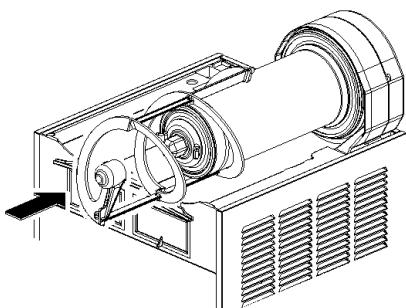

figure 15
- Install the outer spiral. Slide it over the evaporator until its hexagonal front notch engages with the hexagonal exposed end of the magnetic outside rotor (see figure 15).